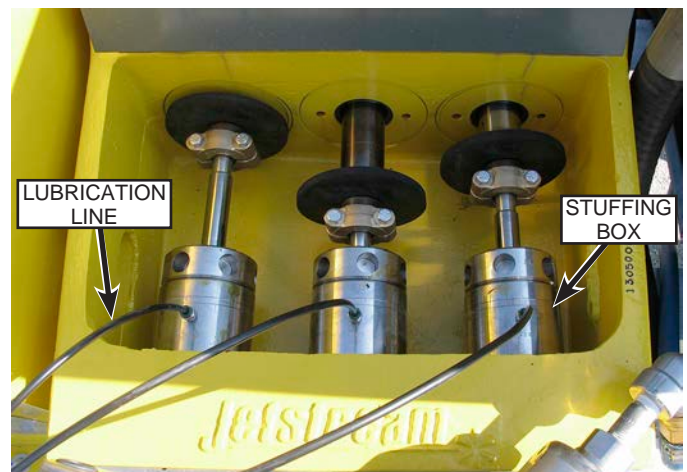

Fig. 28: Checking Lubrication
2. With the pump operating, look into the rod box and verify that lubrication water is flowing from around the plunger opening of the stuffing box (Fig. 28) and down the back of the gland nut.